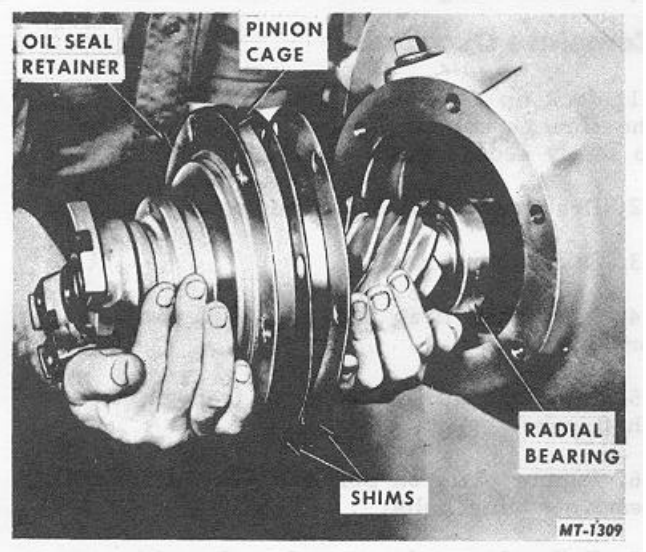

Fig. 5 Removing Pinion and Cage Assembly
14. Remove the pinion and cage assembly from the carrier (Fig. 5). Because of the weight of the pinion and cage assembly make sure that parts are secured safely while removing. Pinion and cage might be damaged if allowed to fall.